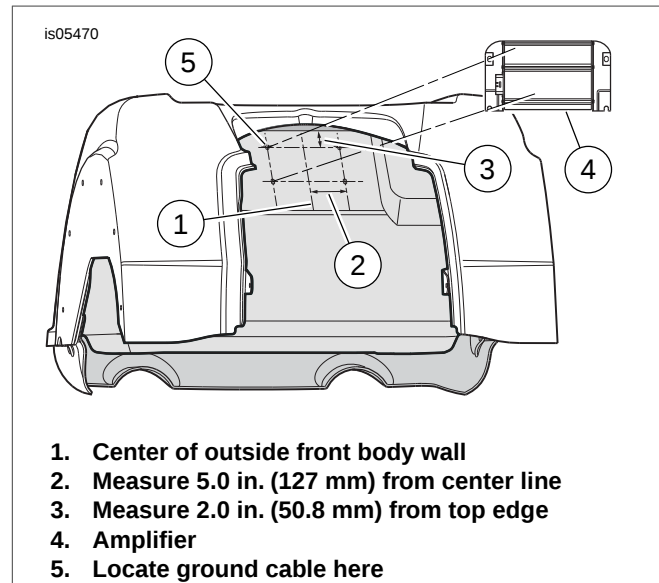

Figure 4. Amplifier Installation, 2009 and Later Tri Glide Models
- a. See Figure 4. Measure and determine the center (1) of the outside front body wall.
- d. Facing the tape, measure 5.0 inches (127 mm) from the center line to the left side of the outside front body wall (2). Measure 5.0 inches (127 mm) from the center line to the right side of the outside front body wall.
- f. Measure down 2.0 inches (50.8 mm) from the top edge of the front body wall on the left-side tape (3), and draw a horizontal line across the tape. Repeat on the right-side tape.
- g. Hold the amplifier (4) with the mounting flanges facing the body, and the electrical connector toward the left. Center the amplifier on the front of the body, with the upper mounting holes on the horizontal lines on the tapes.Mark the drill locations using the amplifier as a template, then remove the amplifier.
6. Obtain the ground cable (13) from the kit. The ground cable includes a separate 1/4-inch (6.4 mm) ring terminal. Connect the installed 5/16-inch (7.9 mm) ring terminal to the ground strap inside the trunk.
9. See Figure 4. Viewing from the outside of the body, install the ground cable ring terminal onto the upper left (5) screw threads (right side of the body).